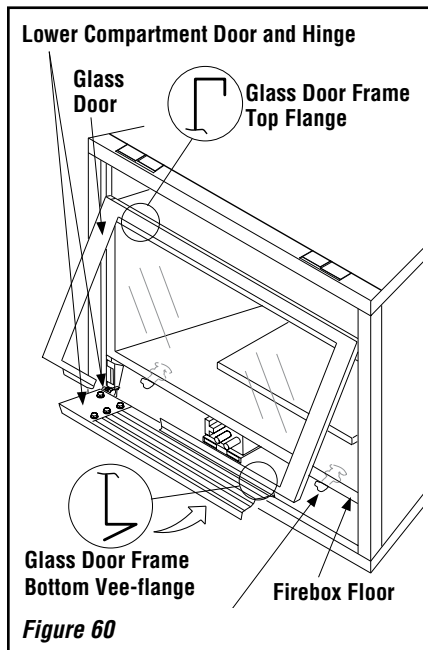

Figure 60
**Removing the Glass Enclosure Panel (see Figure 60)**
To access the glass door securing latches, first open the lower control compartment door (Figure 60) by pushing in simultaneously the left and right top corners of the door (the door is hinged at the bottom).
**Installing the Glass Enclosure Panel (see Figure 60)**
Position the door in front of the firebox opening with the bottom of the door held away from the fireplace (Figure 60). Hook the top flange of the door frame over the top of the firebox frame.